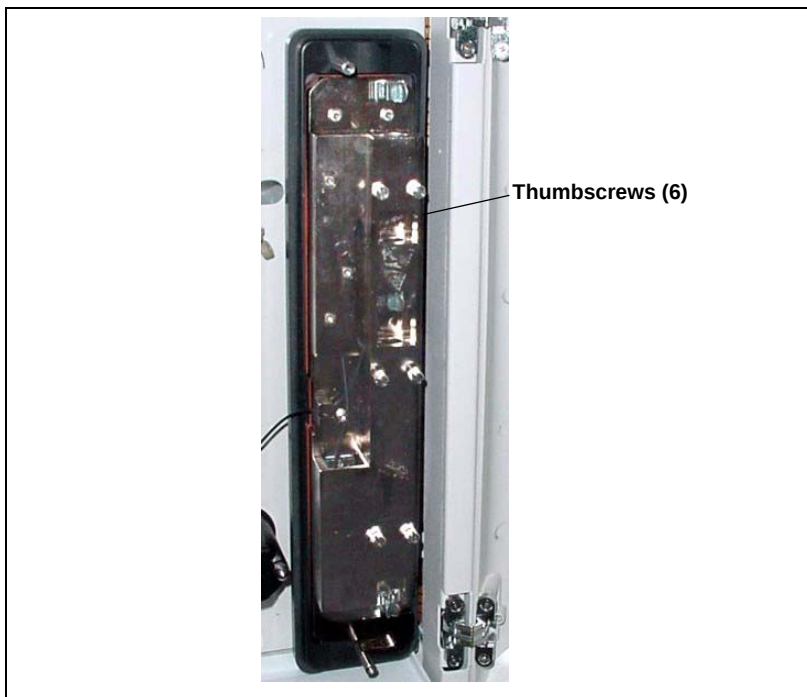

Figure 5-21. ICS-2000 Column Heater Cover Removed
- c. Unscrew the six thumbscrews on the top metal plate (see Figure 5-21) and remove the plate.